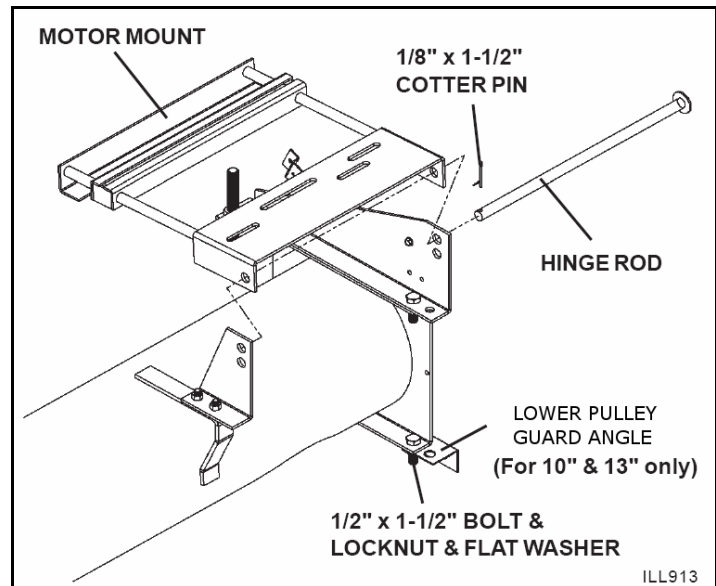

Figure 3.5
4. Place motor mount assembly in between the two mount plates, and insert hinge rod as shown in Figure 3.5. Secure hinge rod with a 1/8" x 1-1/2" cotter pin.
- ➔ 5. For 10" and 13" augers, attach lower pulley guard angle to the head plate with two 1/2" x 1-1/2" bolts and locknuts and 1/2" flat washers (Figure 3.5). Tighten securely.